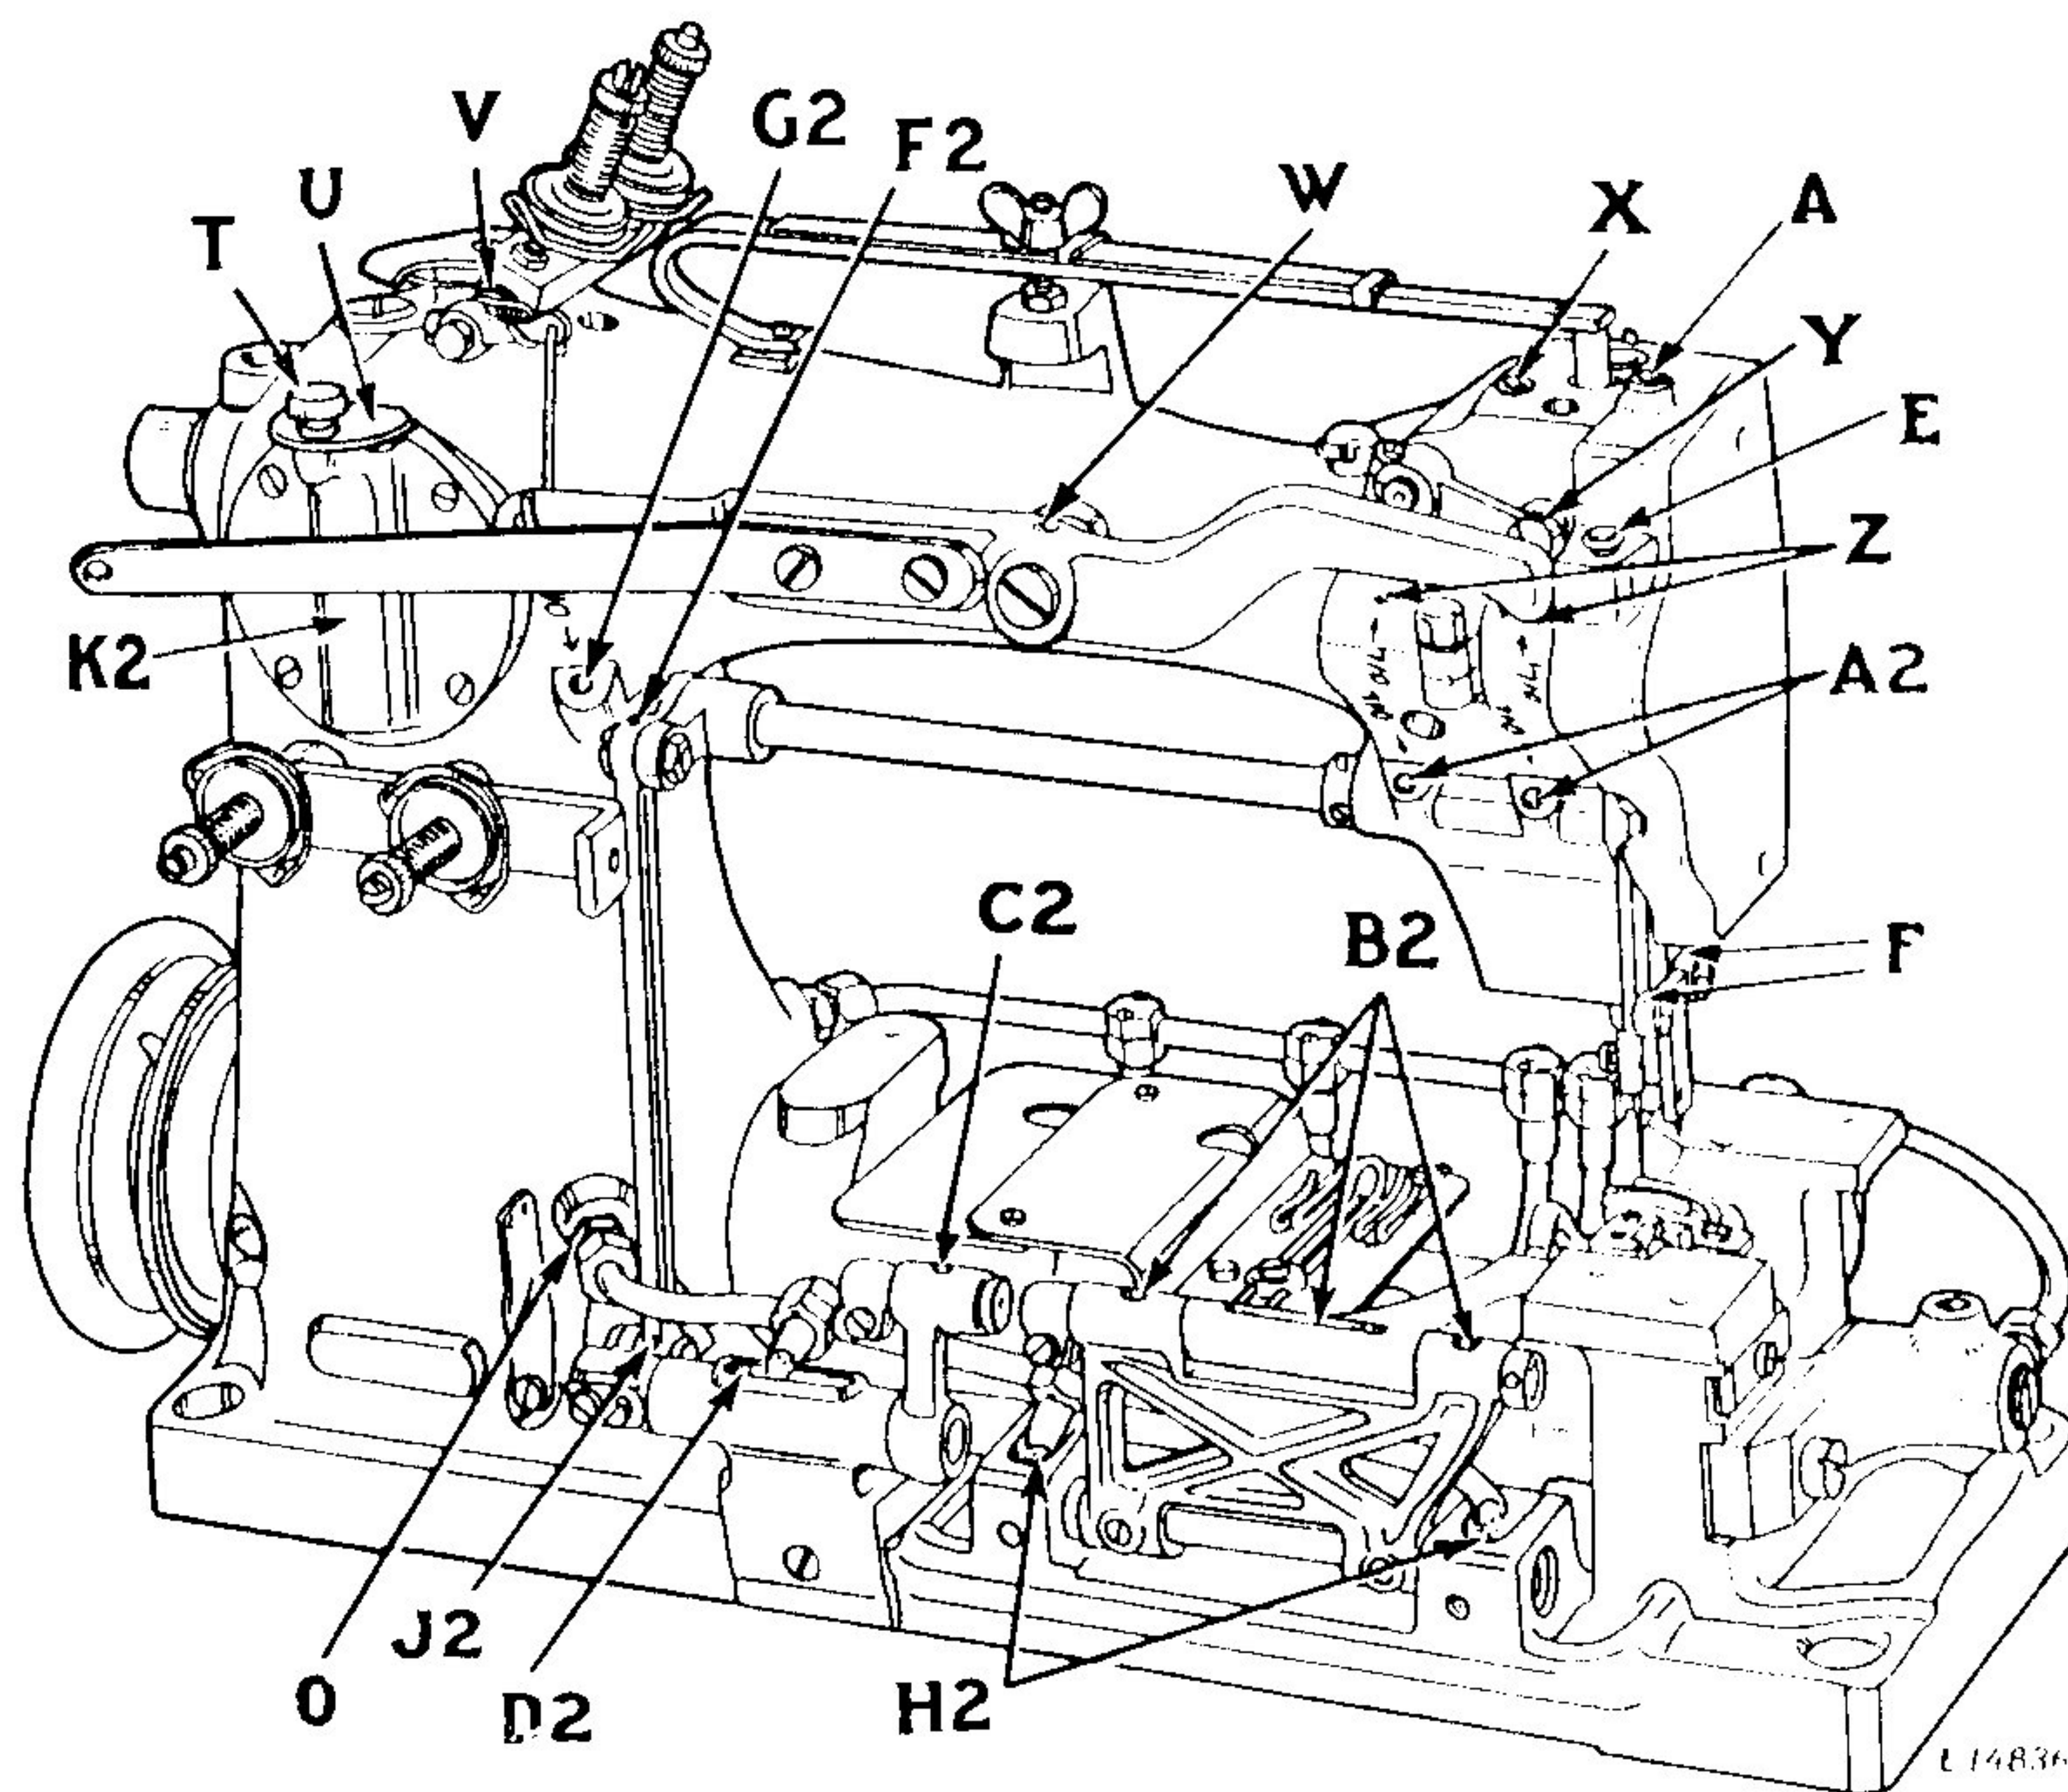
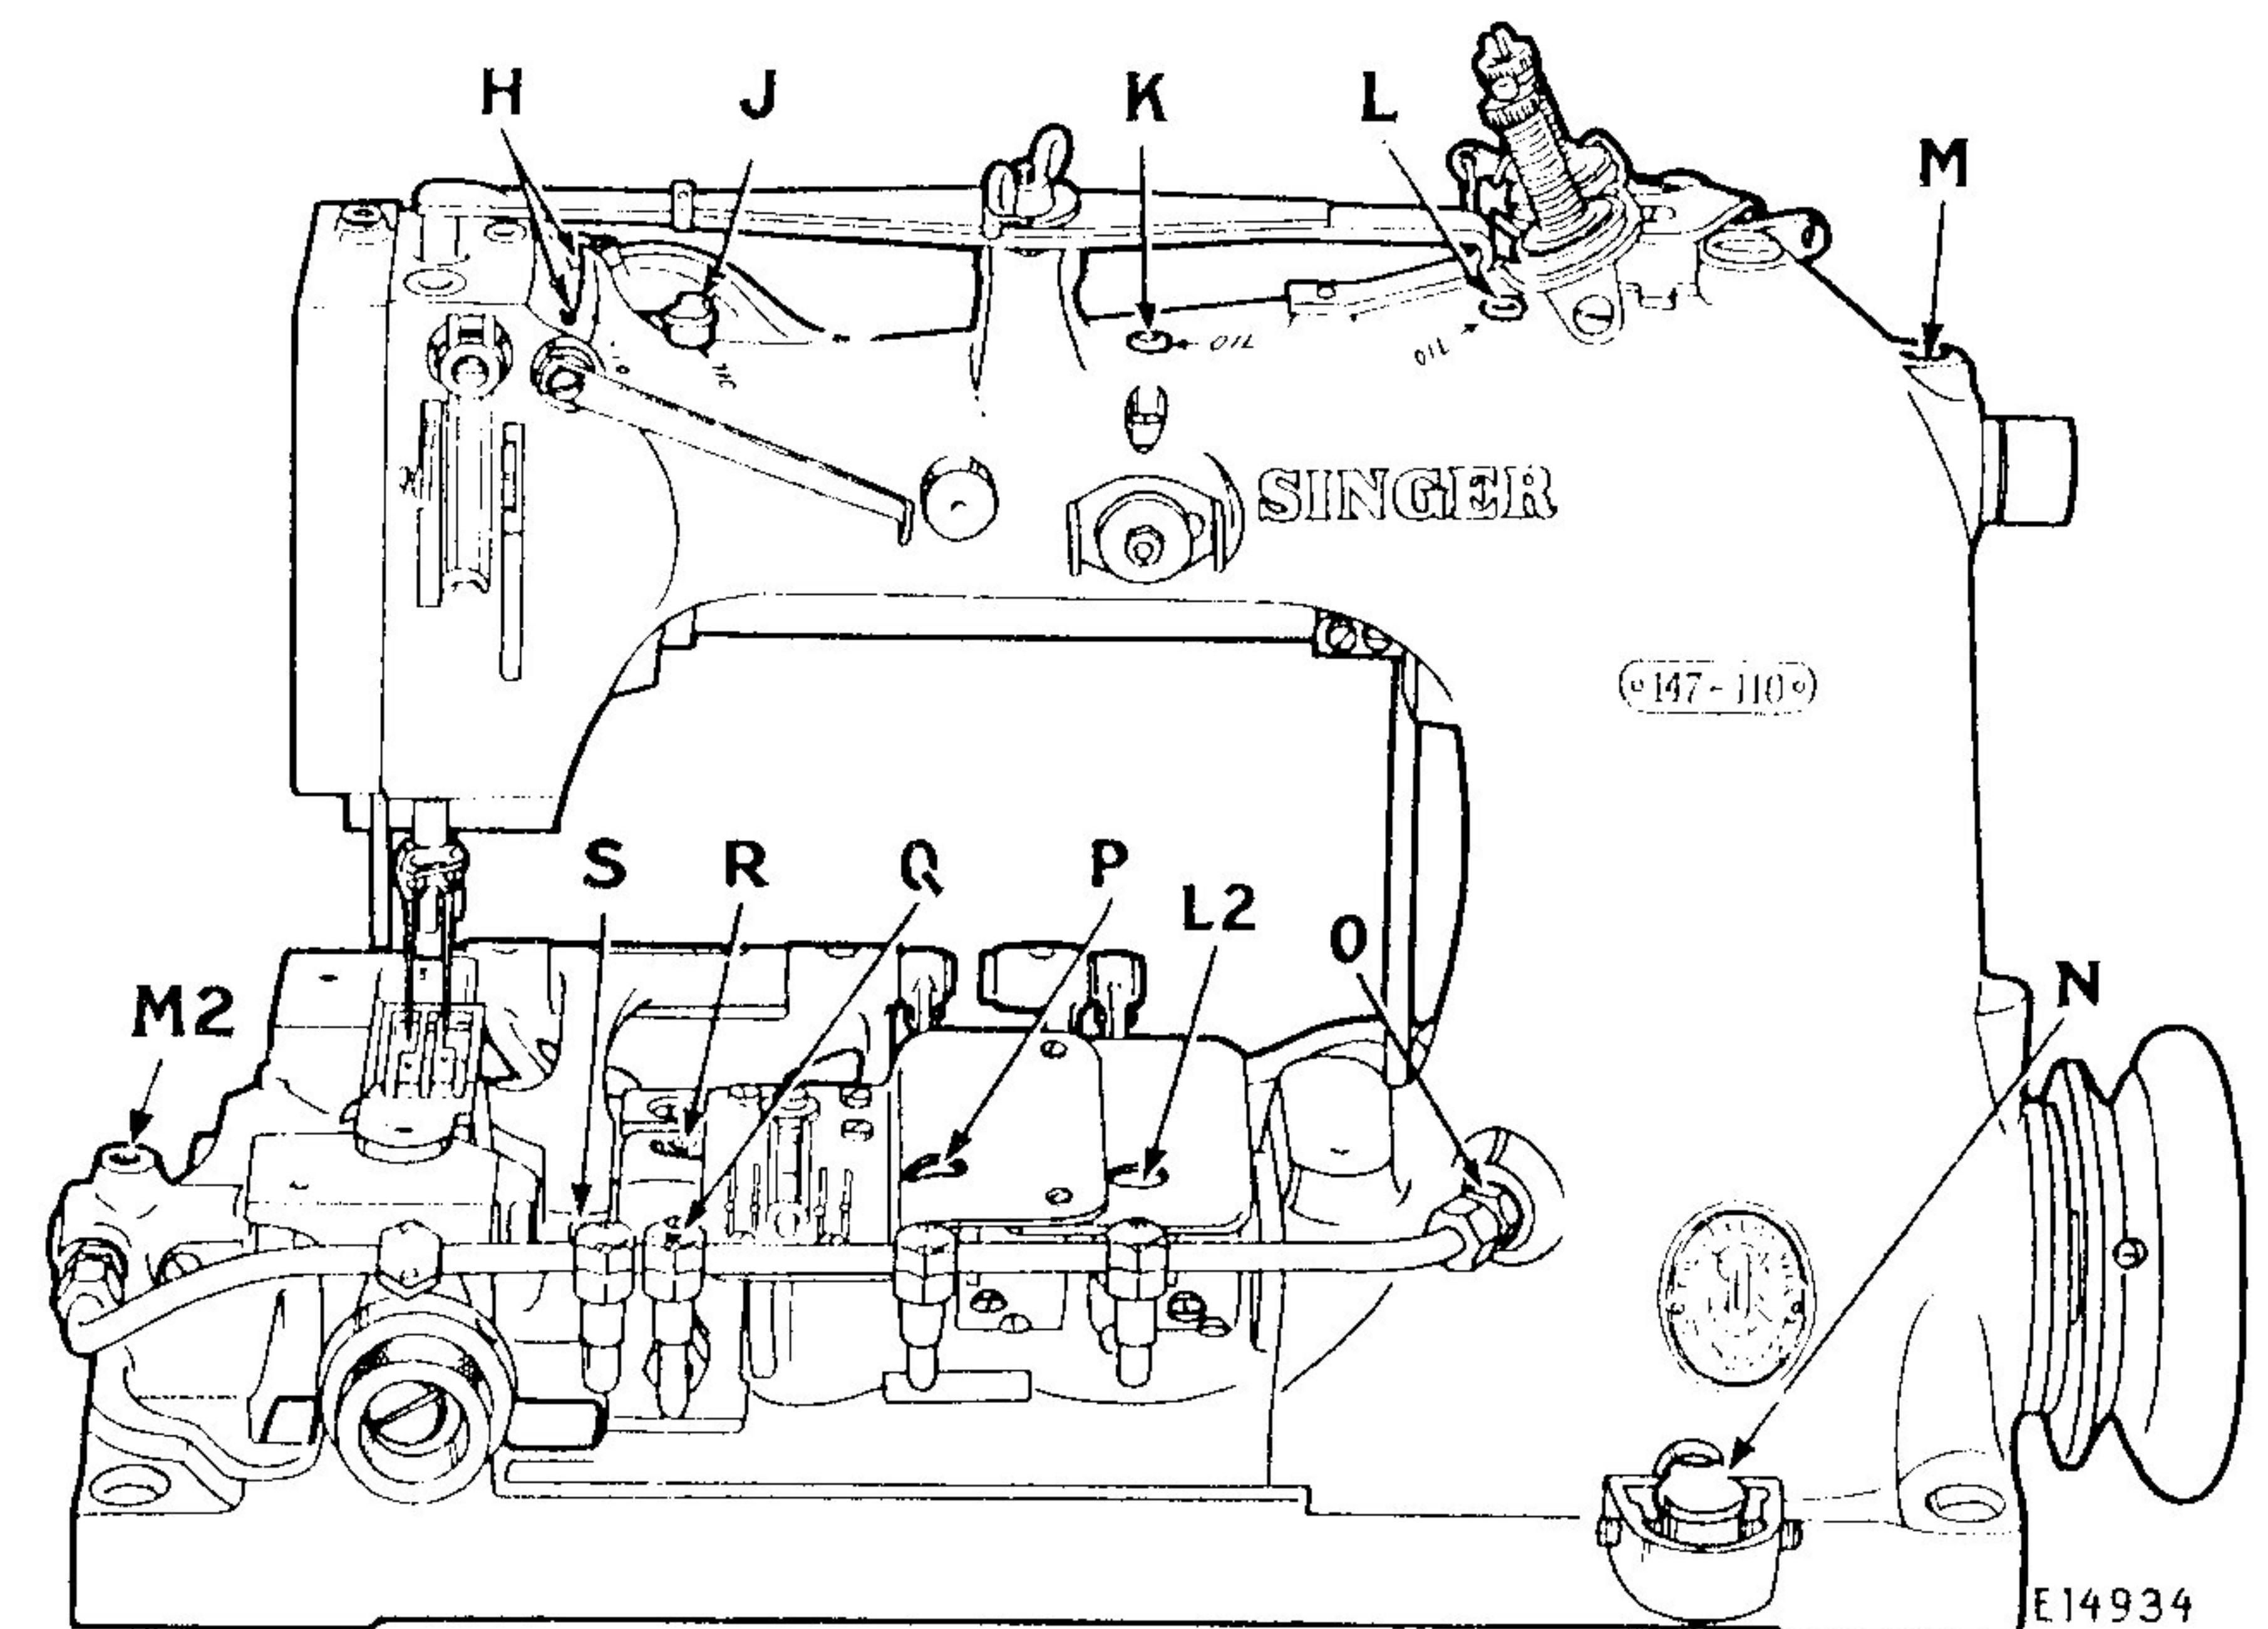

Fig. 2. Priming and Oiling Points at Rear Side of Machines
Fig. 3. Priming and Oiling Points at Front Side of Machine
The work plate and throat plate are removed in Figs. 2 and 3 only for the purpose of illustration.
1st. Loosen thumb screw (T, Fig. 2), turn aside cover (U, Fig. 2) and apply oil to the filler (K2, Fig. 2) until the oil stands about 1/16 inch from the top of the oil level cup (N, Fig. 3). THE OIL SUPPLY MUST BE MAINTAINED AT THIS LEVEL. Turn the cover (U) to closed position and tighten thumb screw (T).
2nd. Fill oil holes (X, A, E, B2 and C2, Fig. 2) and (M2, H, J, K, L and M, Fig. 3).
3rd. Fill the main oil pipe to OVERFLOWING, through oil hole (Q, Fig. 3). This is important as it primes the various oil wicks.
4th. Apply oil at oil holes (W, Y, Z, A2, F, F2 and G2, Fig. 2).
5th. Fill the troughs on connecting rods at (P and L2, Fig. 3).
6th. Fill the oil hole for the rotary shaft at (R, Fig. 3).
7th. Fill the trough on feed lifting eccentric at (S, Fig. 3).
- 8th. Fill the trough at (D2, Fig. 2).
- 9th. Apply oil at (H2, Fig. 2) for the under feed rocking frame hinge pin.
- 10th. Apply oil at (J2, Fig. 2) for the lower end of the upper feed vertical connecting rod.
- 11th. Apply an occasional drop of oil at (V, Fig. 2) for the tension releasing shaft.
1st. Apply oil to the oil filler (K2, Fig. 2) until the oil stands about 1/16 inch from the top of the oil level cup (N, Fig. 3) as instructed on page 7.
NEVER PERMIT THE LEVEL OF THE OIL TO BECOME LOWER THAN 1/4 INCH FROM THE TOP OF CUP (N, Fig. 3) WHEN THE MACHINE IS AT REST.
2nd. Fill oil cup (J, Fig. 3) LEVEL FULL twice daily or as required.
The letter "O", marked on each oil pipe coupling (O, Figs. 2 and 3) must always be at the top. This is to insure that the oil spoon, attached to the inner end of each coupling, is open side up.